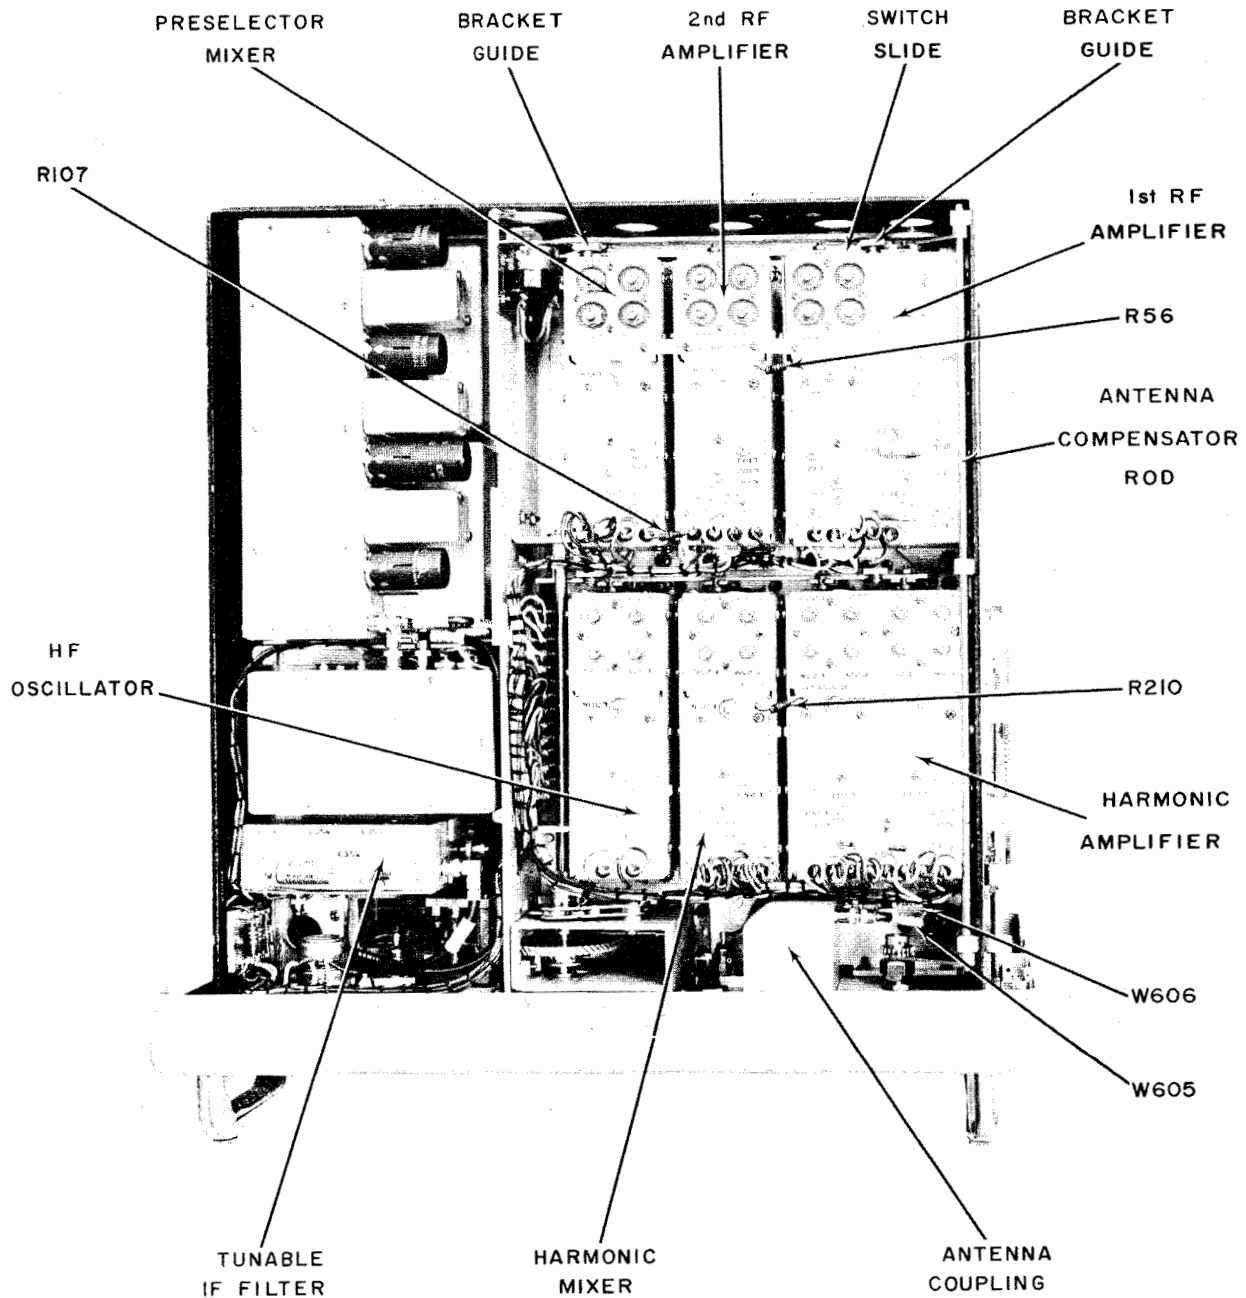

Figure 6-3. Converter Drawer, Lower Deck, Bottom View
9. Connect P2801 of coax cable W606 to jack J2801 and P2802 of coax cable W605 to jack J2802 (figure 6-3).
1. Pull out the converter drawer and tilt the entire unit 90 degrees, exposing the bottom of the lower deck. The tunable IF filter located at the left corner of the lower deck (bottom section), just back of the front panel, is now available for removal (see figure 6-3).